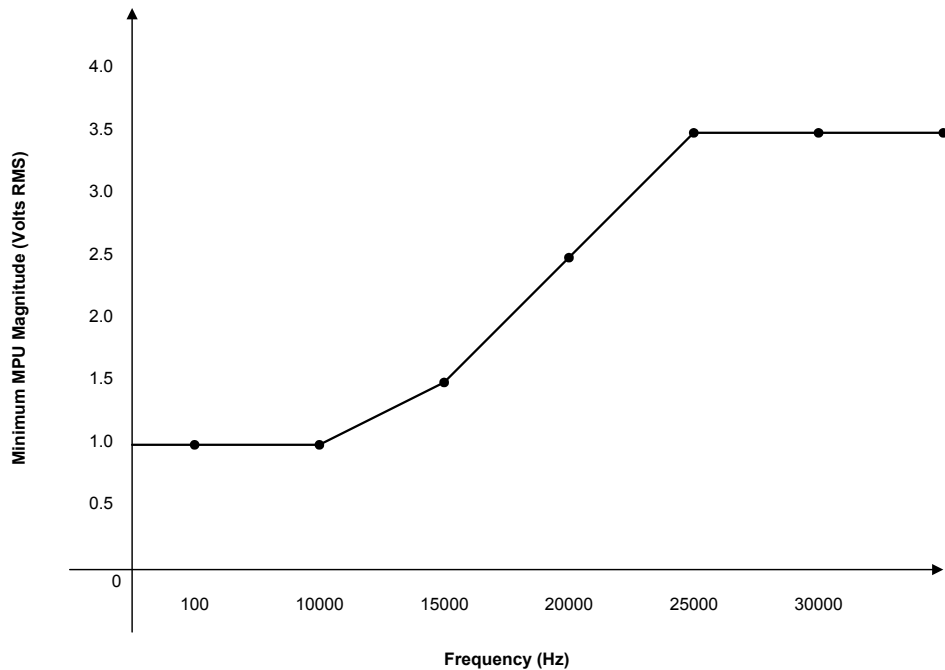

Figure 7-3. Minimum MPU Voltage
Minimum input amplitude	See Figure 7-3.
- Measure the input voltage on the terminal block. It should be greater than that shown in Figure 7-3.